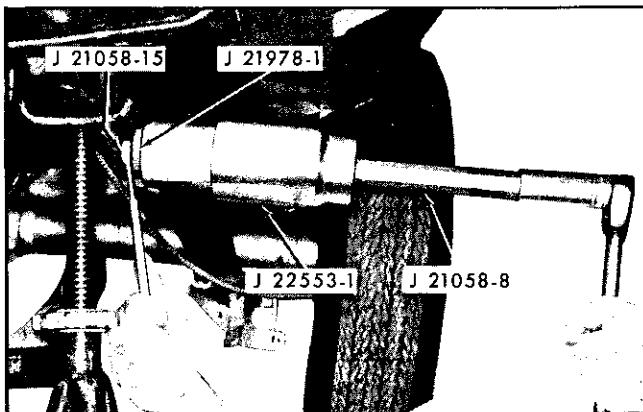

Fig. 4-2 Removing Spring Front Bushing—Firebird
- b. Position remover adapter J 21978-1 over puller screw J 21058-15 so that adapter is against head of puller screw. Refer to Fig. 4-2 for view of removal tools.